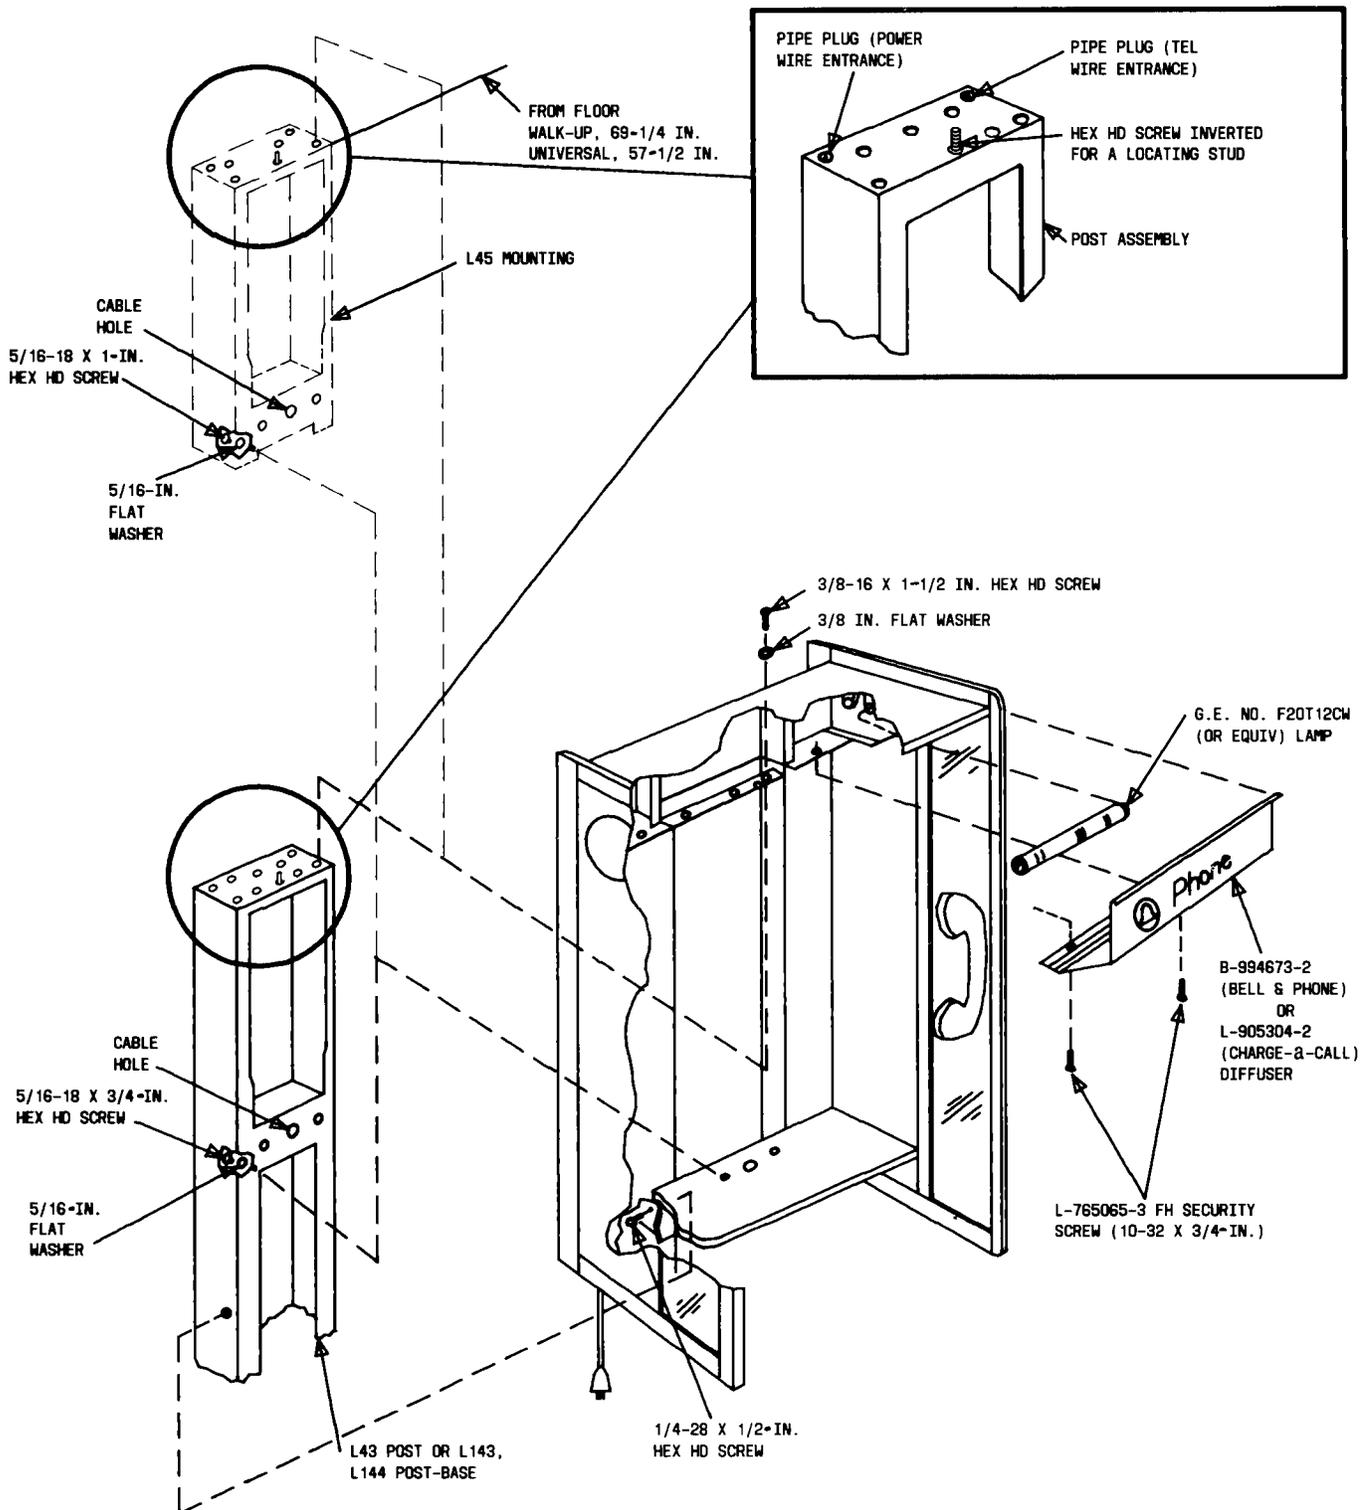

Fig. 29—Installation of List 33 Housing on List 43 Post or 143, 144 Post-Base and List 45 Mounting
- 3.28 List 33 Housing Assembly With List 43 Post or List 143, 144 Post-Base; and List 45 Mounting (Fig. 29).**
- (f) Remove the center-front hex head screw and flat washer from top of post or mounting. Invert screw, and install it back in the same hole from the opposite side for use as a locating stud (Fig. 29).